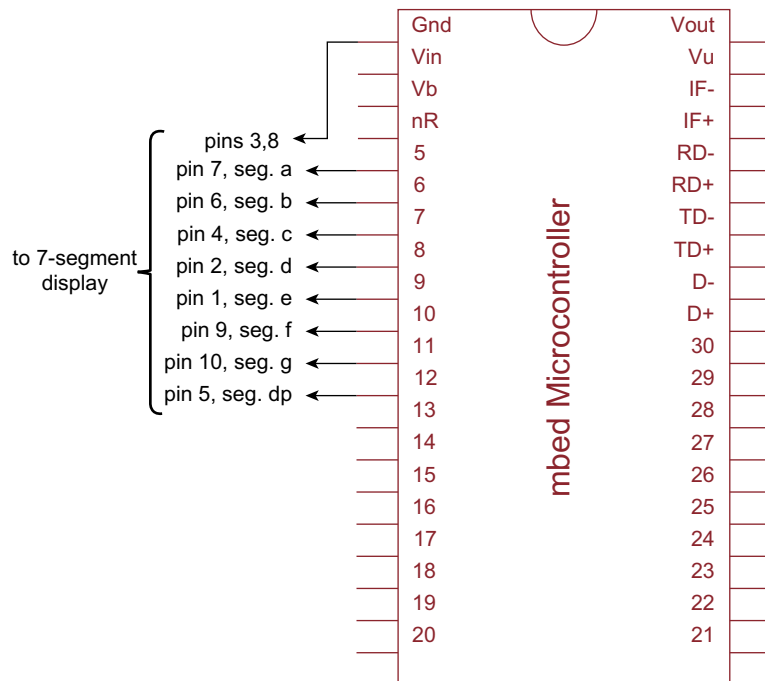
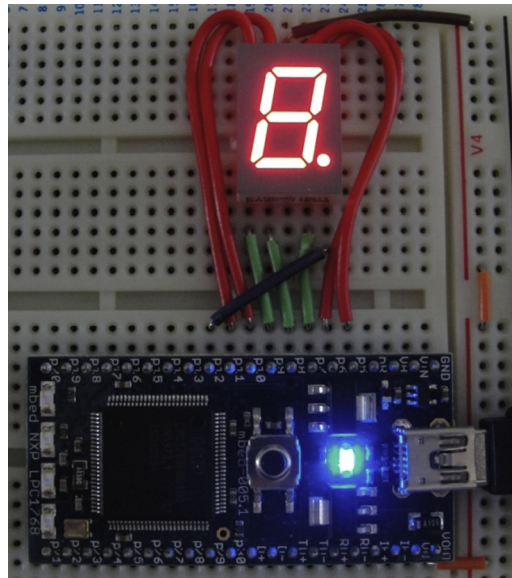

Figure 3.10:
Figure 3.11:
Connect a seven-segment display to an mbed, using the circuit of Figure 3.10. In this simple application the common cathode is connected direct to ground, and each segment is connected to one mbed output.
Compile, download and run the program. The display should appear similar to Figure 3.11. Notice carefully, however, by looking at where pin 8 is connected, that this is a common anode connection. It does not exactly replicate Figure 3.10. Pin 3 has been left unconnected.
Write a program which flashes the letters H E L P in turn on a seven-segment display, using the circuit of Figure 3.10.
5. What is the current taken by the display connected in Figure 3.10, when the digit 3 is showing?
6. If in Figure 3.10 a segment current of approximately 4 mA was required, what value of resistor would need to be introduced in series with each segment?